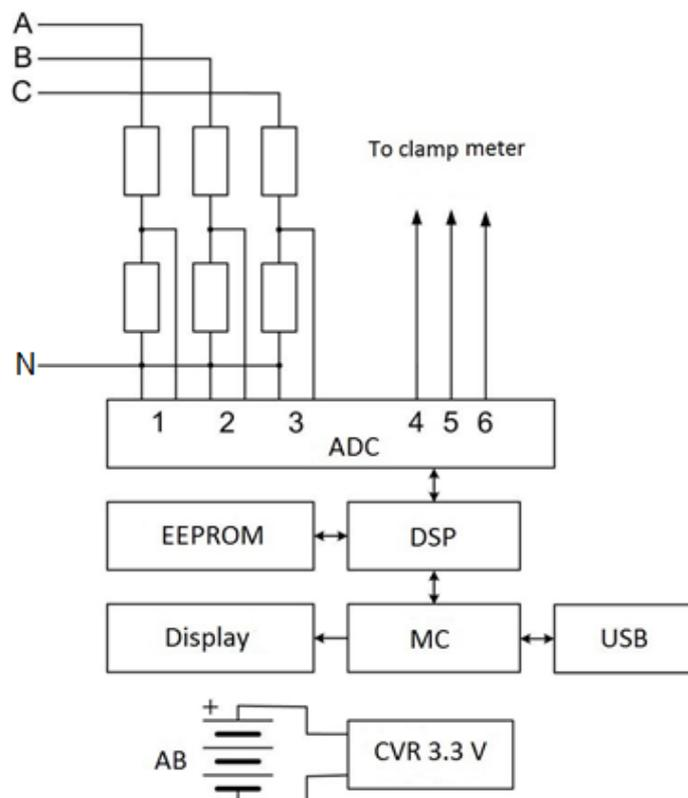

Fig. 3. The device block scheme.
The device block scheme is shown on Fig. 3. The device consists of three input resistance dividers, a multi-channel analog-to-digital converter (ADC) for digitizing input signals, digital signal processor (DSP) for signal processing, a microcontroller (MC) for controlling the peripherals and batteries charging, LCD screen for showing measurement data, USB interface for connecting to PC, constant-voltage regulator (CVR) and accumulator batteries (AB).
Fig. 3 displays the measured values in the mode of reading value, which is set by default after the device is switched on. In this mode, the vector diagram of the circuit being measured is displayed without observing graphical scales.
The angle, which is displayed as the shift angle of phase A (fig.3, highlighted column), will correspond with the phase shift of the current being measured as related to phase-to-phase voltage AB.